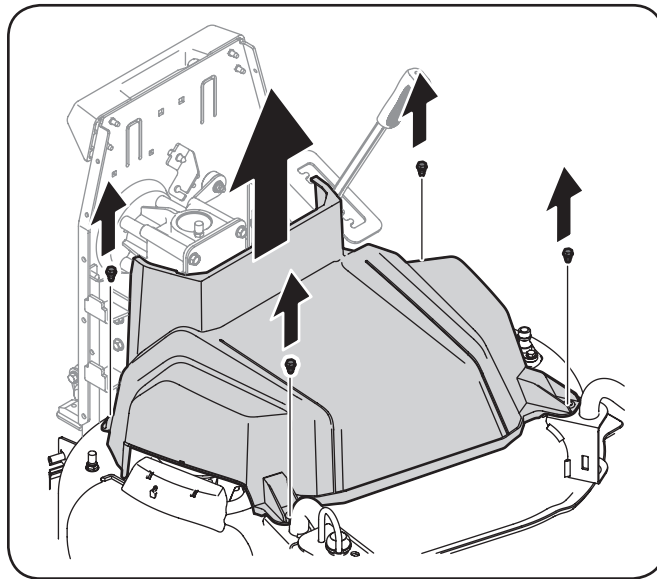

Figure 6-5
3. Remove the lower belt cover by removing the four screws that secure it as shown in Figure 6-5.